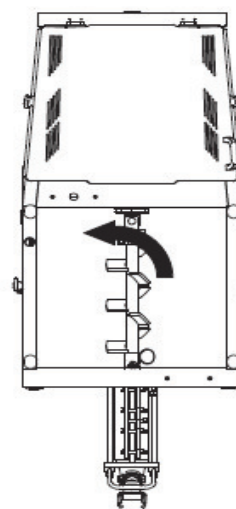

FIG. 8c
Close the spray jet valve (ref.12), turn the main switch (ref. 5) to 1(ON). The blue indicator (ref. 2) lights up to indicate power on the line. Turn the phase switch (ref. 4) to position 1 or 2: the phase is correct when the screw turns in the direction indicated in the figure (fig. 8c). If the phase is incorrect, the screw turns in the opposite direction (use this phase to discharge pressure when required). Turn switch (Ref. 7) anticlockwise or clockwise to set the motor speed to speed 1 or 2. Open the spray jet air valve (or pneumatic control)(ref. 12) or start the machine by means of the electric remote control, if available: the pump starts to rotate slowly. Depending on the machine configuration, wait until the grout in the hopper reaches the level of the mixer. At this point shut down the machine by means of the pneumatic or electric control, fill the hopper and start work as required. When the electric remote control is connected, the selectors (ref. 4,5,7) should be set to the start position. The machine is controlled exclusively by means of the electric remote control.